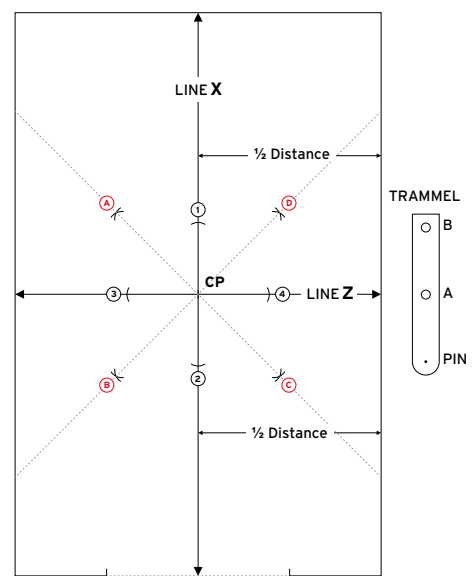

Figure 3
- > Find the centre of line X and mark the Centre Point (CP).
5.6.3 Setting out and installation for diagonal tiling (Refer to fig. 3)
- > Mark a centre line as described earlier (fig. 3).